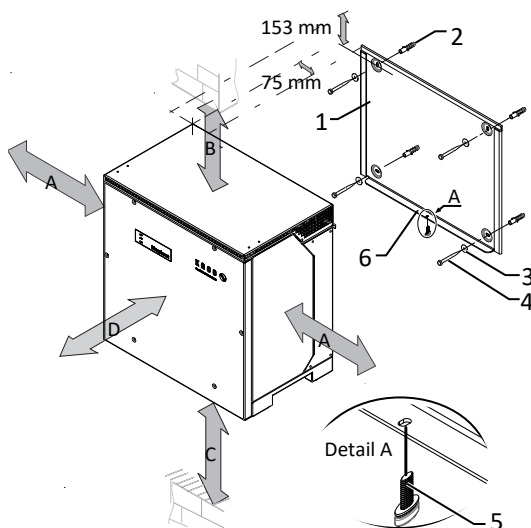

Fig. 16: Minimum clearances for wall mounting
3. Insert the screw provided into the lug of the mount and secure the device to prevent it from being lifted off [XT30 /  2 Nm] [See figure 16: Minimum clearances for wall mounting [► Page 21]].